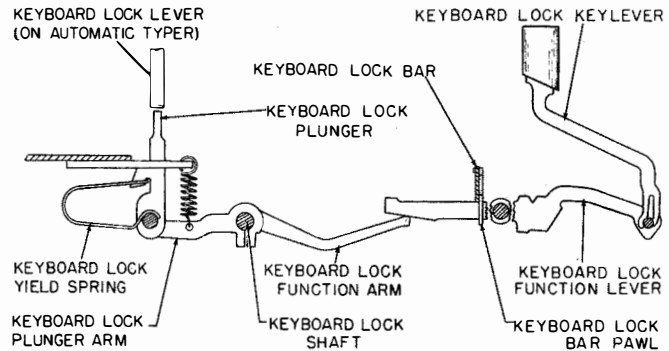

Figure 2-26. Keyboard Lock Mechanism
*i. KEYBOARD LOCK MECHANISM.*—Operation of the keyboard lock keylever (red) causes its function lever to raise the keyboard lock bar pawl (figure 2-26).